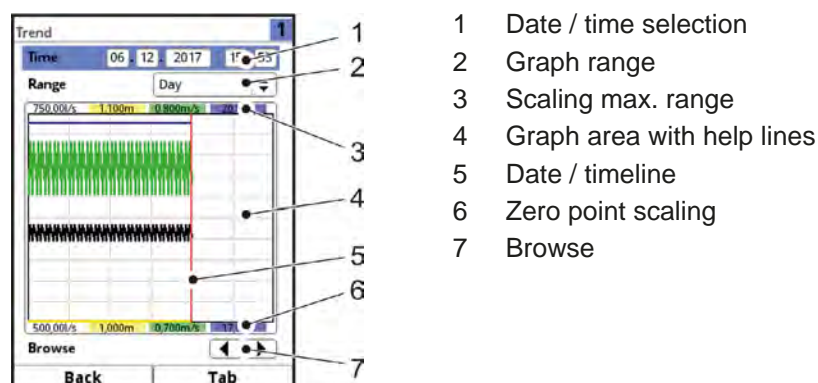

Fig. 24-2 Trend graph screen
The **Date/Time Selection** (Fig. 24-2 no. 1) can be found in the top area of the main screen. The line is highlighted blue and hence active.
5. Confirm your entry with the right function key. Date and time will be accepted. The readings are shown in the display depending on the date and the period selected (Fig. 24-2 no. 2).
The vertical red line (Fig. 24-2 no. 5) marks the selected point of time (date and time).
➤ Modify the setting using the >Range< section (see Fig. 24-2 no. 2).